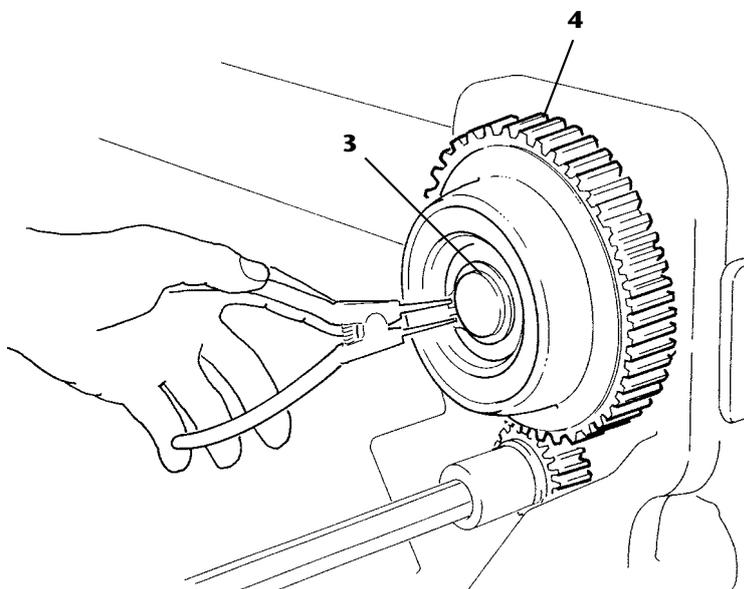

fig. 220
*For the replacement of the wheels proceed as follows: (fig. 220).*